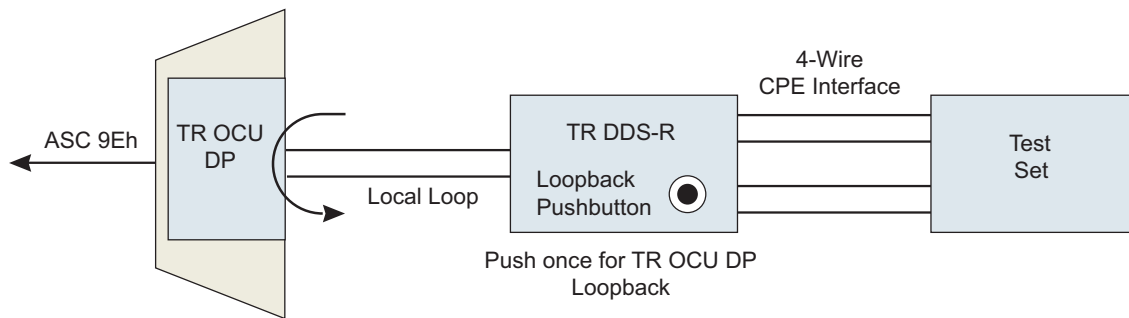
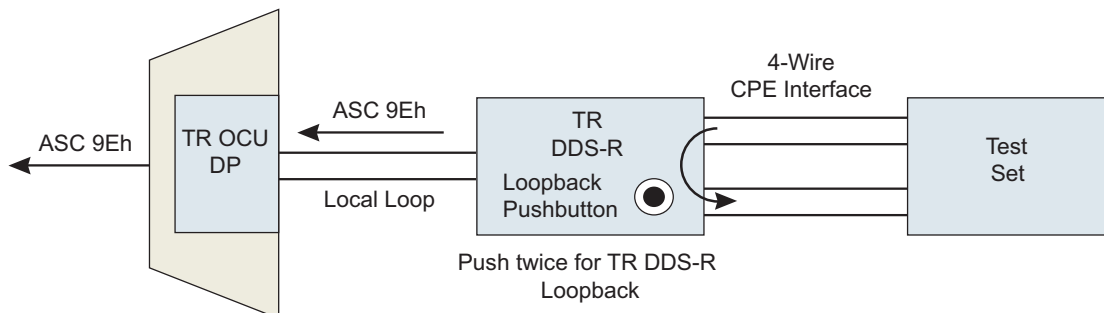

Figure 6. TR DDS-R Remote End Initiated Loopback, Local Loop
Figure 7. TR DDS-R Remote End Initiated Loopback, Customer Loop
- Pressing the TR DDS-R **LBK** pushbutton once initiates a loopback at the TR OCU DP toward the customer. Refer to Figure 6. This allows data to be sent from the remote end to test the local loop and the TR DDS-R. This loopback is indicated by a flashing **CUST** LED on the TR DDS-R and a solid **CUST** LED on the TR OCU DP.
- Pressing the **LBK** pushbutton a second time initiates a loopback at the TR DDS-R toward the 4-wire DDS (CPE) interface. Refer to Figure 7. A solid **CUST LBK** LED on the TR DDS-R indicates a loopback at the TR DDS-R toward the customer equipment.
If errors exist, the loopbacks can help determine the source, either the local loop or the TR DDS-R. During a remote end initiated loopback, the Total Reach system transmits ASC (9Eh) toward the network, indicating an out-of-service condition generated by the remote end, as shown in Figure 6 and Figure 7.